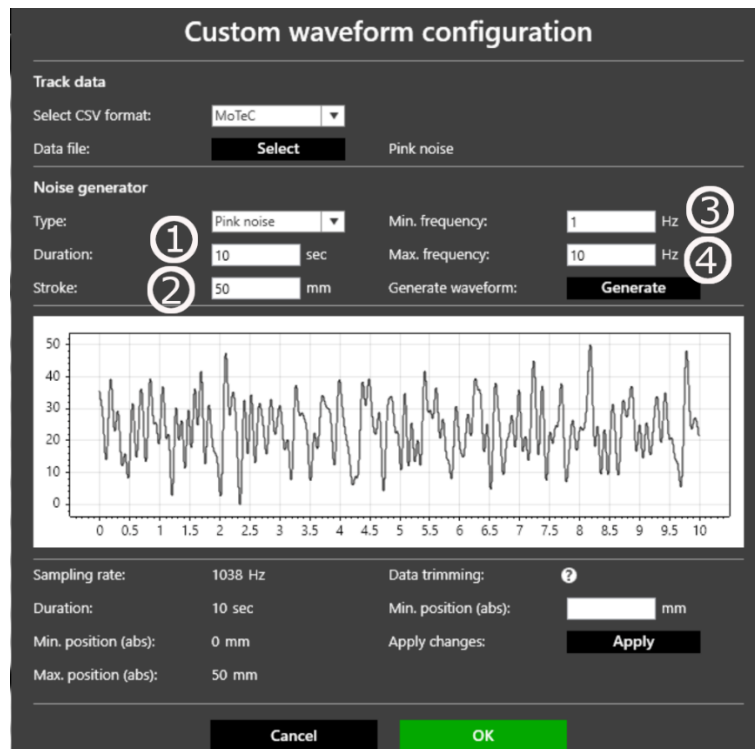

Figure 27
1. Enter the pink noise test duration (Figure 27 – Step 1)
2. Enter the stroke of the test (Figure 27 – Step 2)
3. Enter the minimum frequency (Figure 27 – Step 3)
4. Enter the maximum frequency (Figure 27 – Step 4)